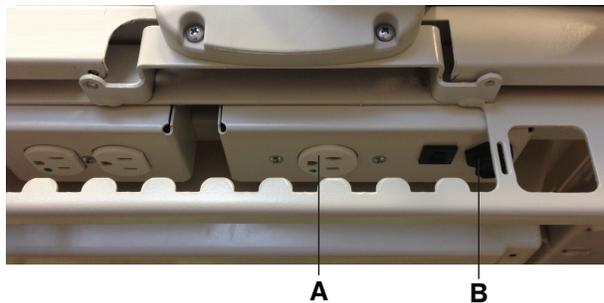

Figure 35: Auxiliary mattress connector outlet
2. Connect the integration cable from the support surface to the auxiliary mattress connector (B) (Figure 35 on page 51).
3. Plug the support surface power cord into the auxiliary mattress connector outlet (A) (Figure 35 on page 51).